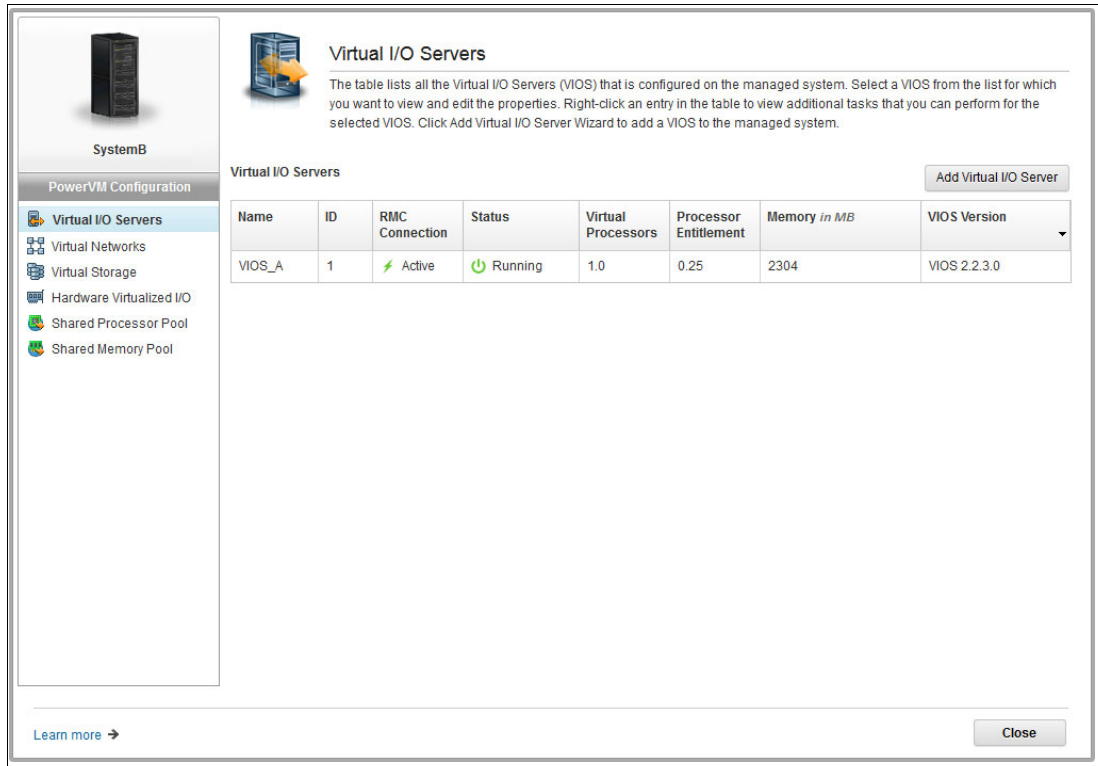

Figure 3-14 VIO servers, Virtual Network, and Virtual Storage are accessible from the UI
As part of the enhancements introduced in this version, this new capability aids in the management of PowerVM from a single user interface (UI). Figure 3-14 shows how all virtualization components are now displayed in a single UI.